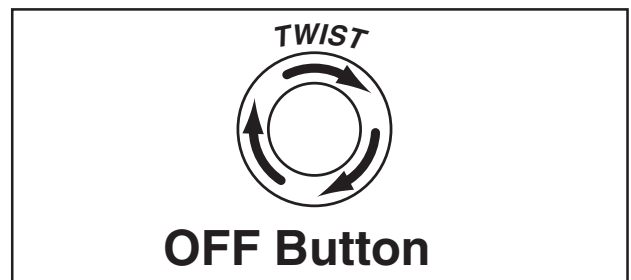

Figure 24. Resetting the switch.
7. Push the OFF button in, then twist it clockwise so it pops out. When the OFF button pops out, the switch is reset and ready for operation (see **Figure 24**).